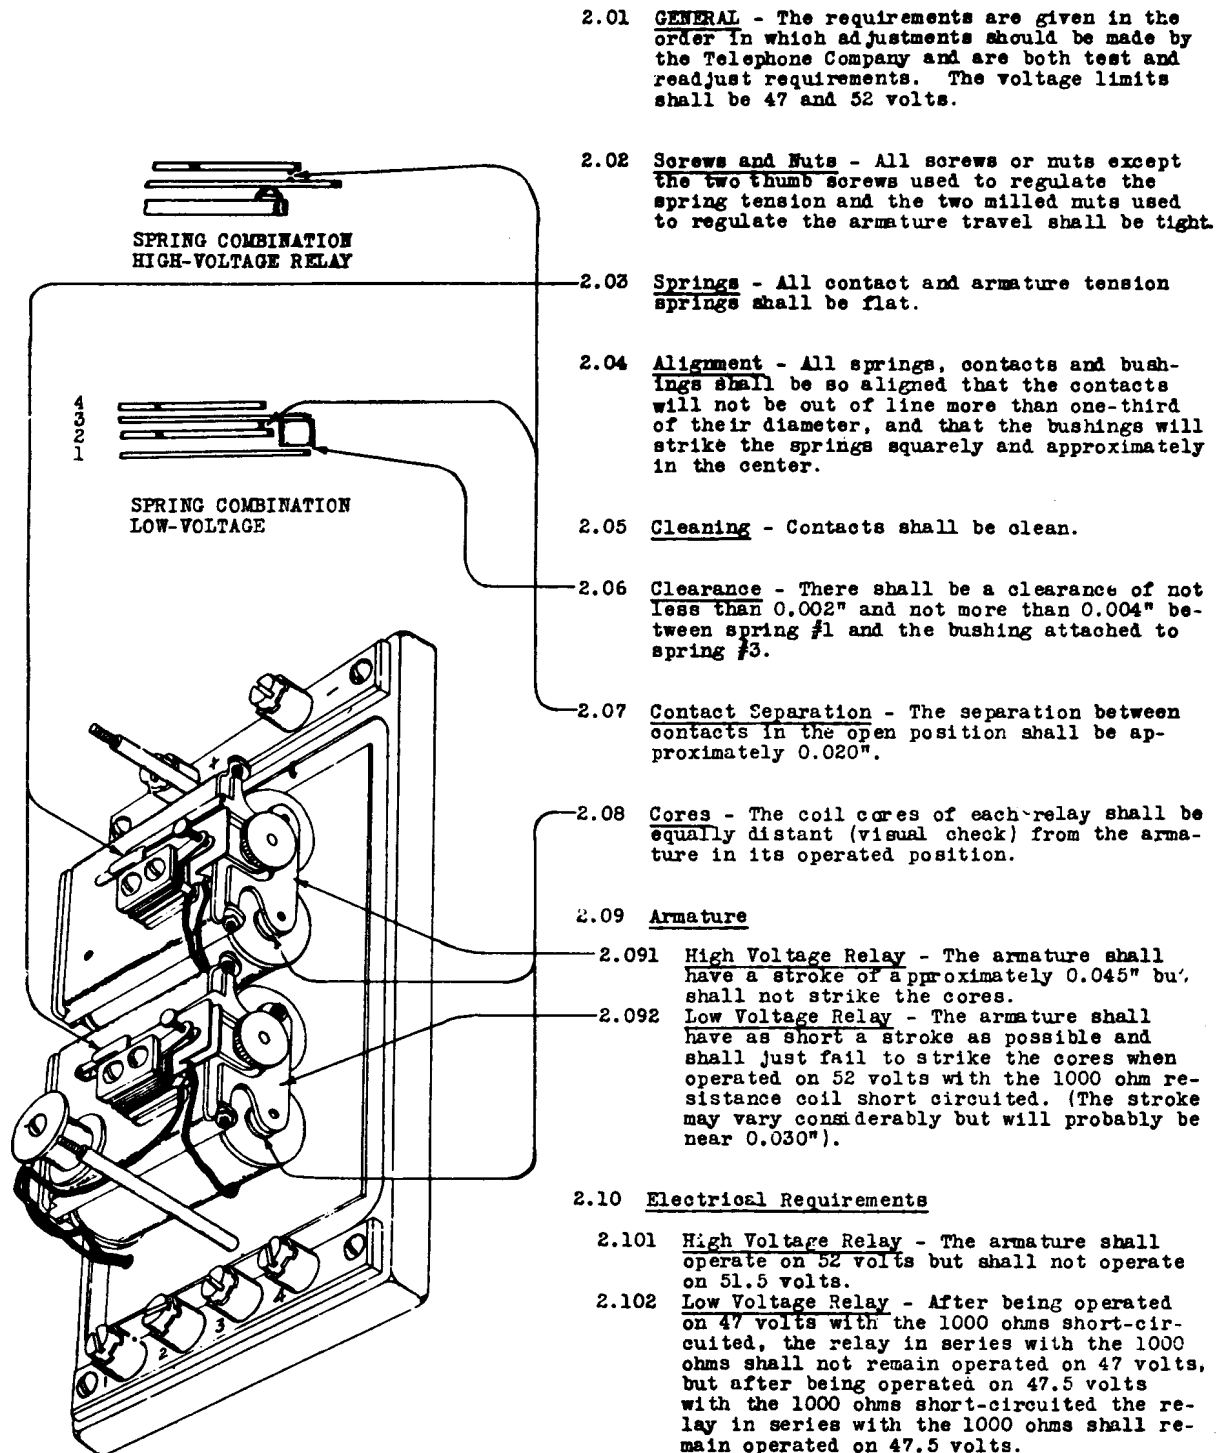

Fig. 1 - Test and Readjust Requirements for the A.E.CO's. High-Low Voltage Relay
2.1 Unless otherwise specified, the A.E.Co.'s High-Low Voltage Relay shall meet the test requirements given on Figure 1.